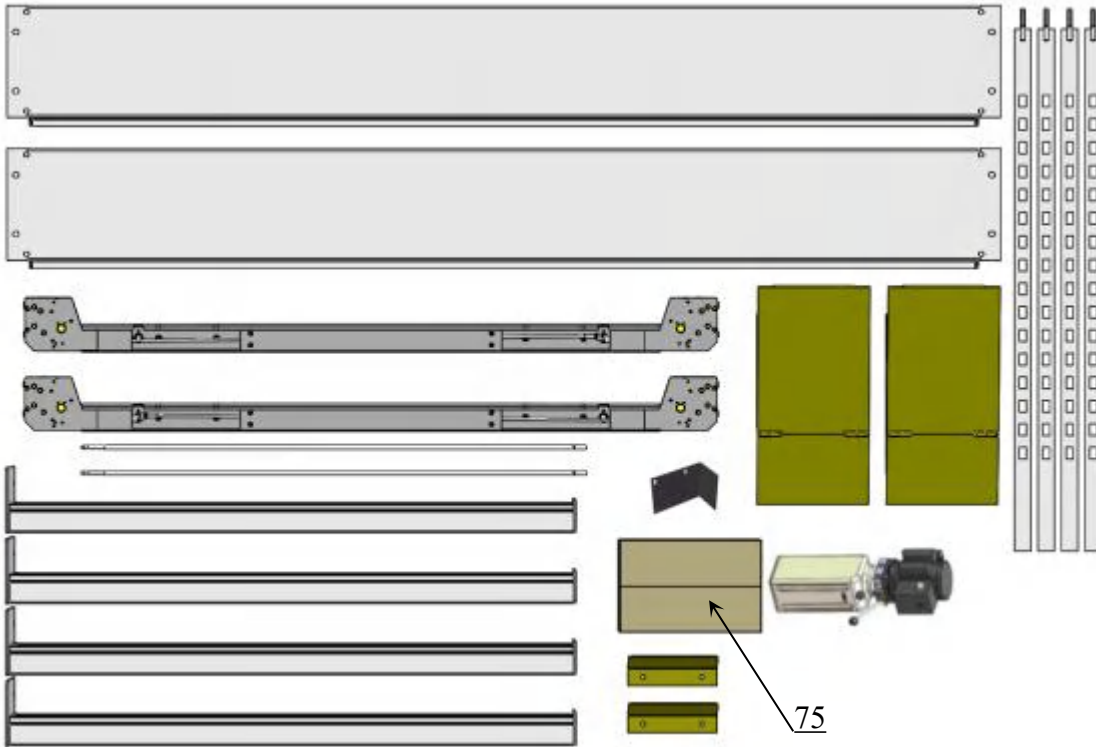

Fig. 11
5. Move aside all the parts to the installation position and check the parts according to the parts list **(See Fig. 11)**.